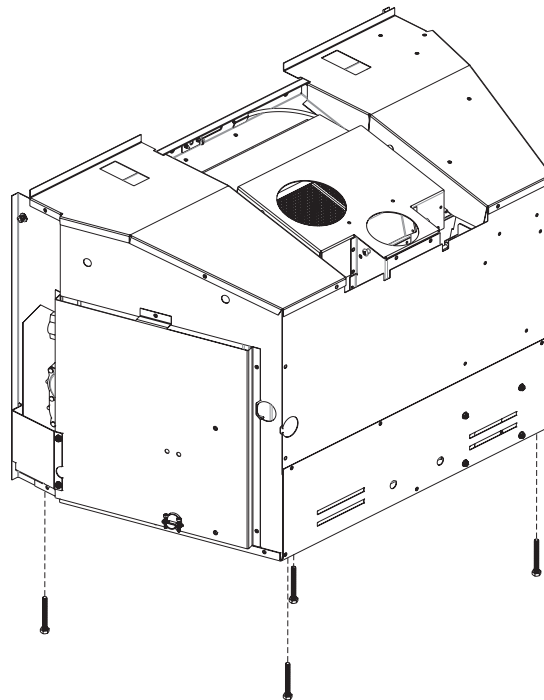

Figure 11
**NOTICE:** The minimum vertical vent rise is 10 feet and the maximum vertical vent rise is 40 feet. These dimensions are measured from the starting collars of the unit to the end of the last section of vent pipe. **See Figure 11**, page 17.
**Figure 11** shows the vent termination cap and system approved for use with these models. Approved vent system terminations are labeled for identification. Use 3-inch diameter, flexible aluminum or stainless steel gas venting for the incoming combustion air. Use 4-inch diameter flexible aluminum or stainless steel gas venting for exhaust vent pipe. **No other venting systems or components may be used.** Detailed installation instructions are included with each vent termination kit and should be installed in conjunction with this manual.
7. Install leveling legs. **See Figure 11.**